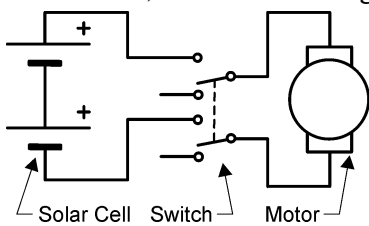

Figure 3 Series Circuit
- When the two sections are connected in series (Figure 3), in bright sunlight the motor receives approximately 3.0Volts at 0.2Amps.